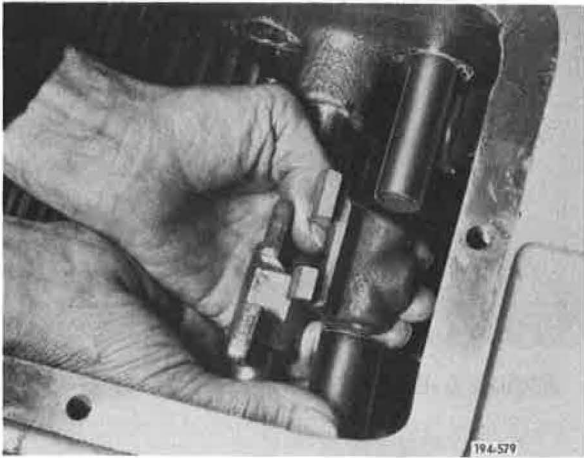

Figure 5-683. Removing Shifter and Spacer
17. Remove first speed shifter setscrew, slide first speed shift rail forward, and remove first speed shifter and reverse lockout spacer. See Figure 5-683.